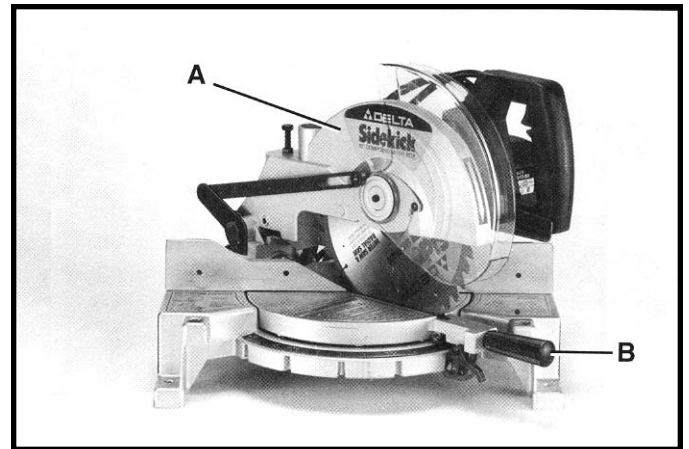

Fig. 2
2. Fig. 2, illustrates the miter box after it has been removed from the carton. Note that the machine is shipped with the cuttinghead (A) locked in the down position and the table control arm (B) rotated to the 45 degree right miter position.